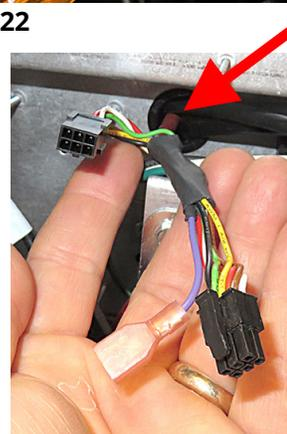

Figure 24
29. Route the harness from the new OQS sensor, behind the left control box, through the opening with the grommet (see Figure 24).